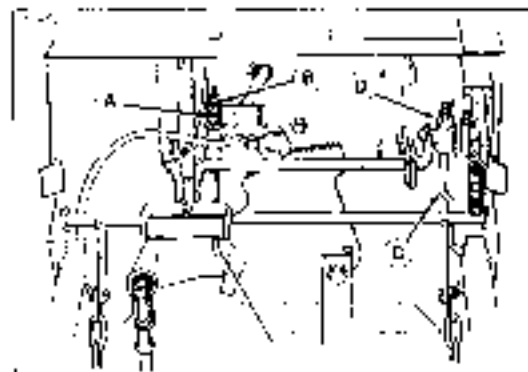

Figure 43 Gear Models
2. The clutch rod spring (A, in fig. 43), should measure 2" to 2-1/2" along the long side between its fixed end and free end. To adjust, tighten or loosen the nut (B).
3. Pull the brake rod (C) toward home as far as possible. Tighten or loosen nut (D) to achieve 1/2" of clearance between rear surface of nut and the quick-throw rod extends through.